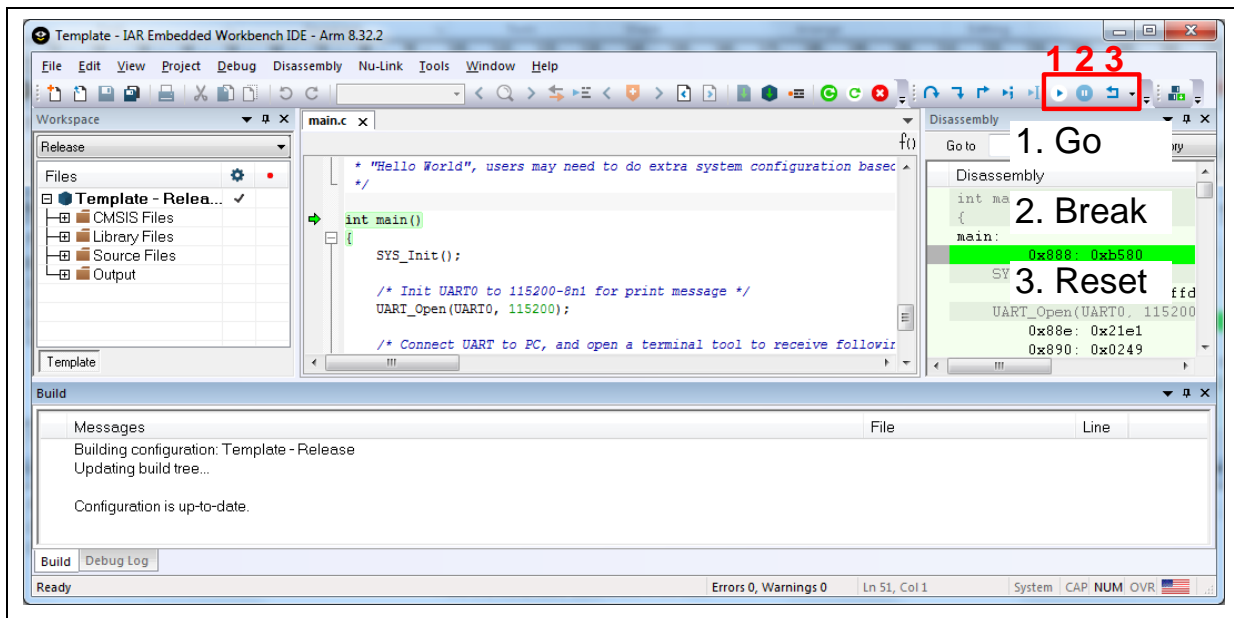
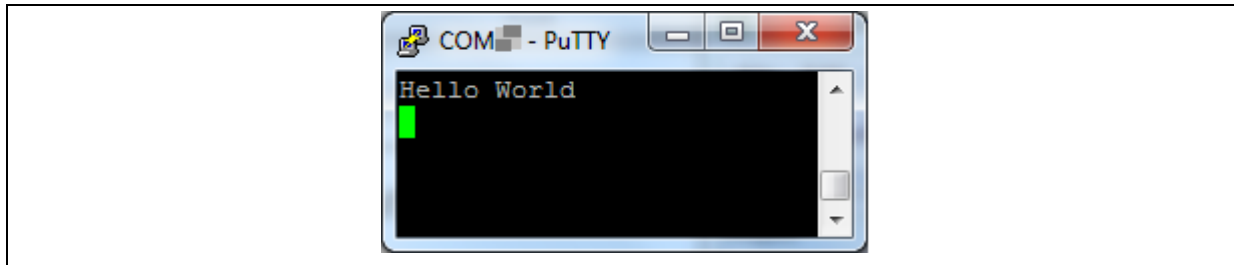

Figure 3-17 IAR EWARM Debug Mode
Figure 3-18 Debug Message on Serial Port Terminal Windows
- Figure 3-17 shows the debug mode under IAR EWARN. Click “Go” and the debug message will be printed out as shown in Figure 3-18. User can debug the project under debug mode by checking source code, assembly language, peripherals’ registers, and setting breakpoint, step run, value monitor, etc.